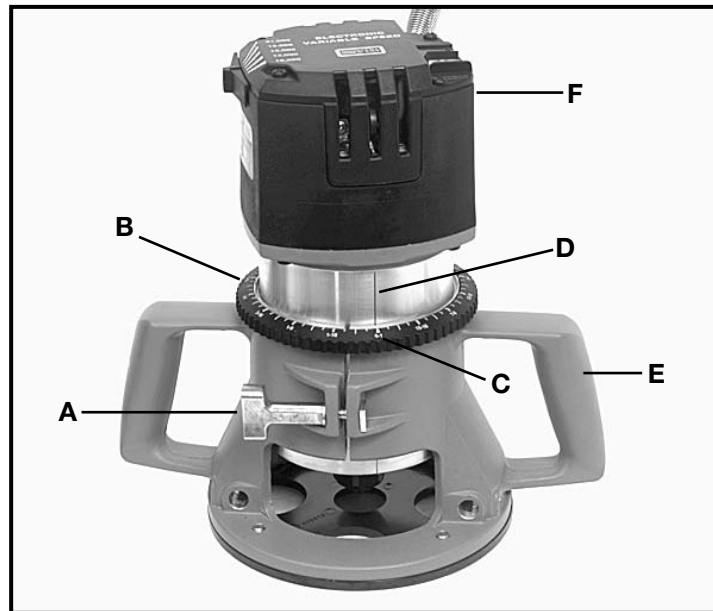

Fig. 3
2. Loosen clamp screw (A) Fig. 3.
3. While holding base (E), turn motor unit (F), Fig. 3, COUNTERCLOCKWISE until the tip of the bit is above bottom surface of base.
5. Turn motor unit (F), Fig. 3, CLOCKWISE until bit touches the wood surface.
6. Tighten clamp screw (A) Fig. 3.
7. Rotate depth adjusting ring (B), Fig. 3, until the zero-line (C) is opposite the index line (D) on the housing.
8. Loosen clamp screw (A), Fig. 3.
9. Tip the router so bit is clear of the wood surface. Turn motor unit (F), Fig. 3, CLOCKWISE until the index line (D) on the motor housing reaches the desired depth indicated on the ring.
10. Tighten clamp screw (A), Fig. 3, firmly.